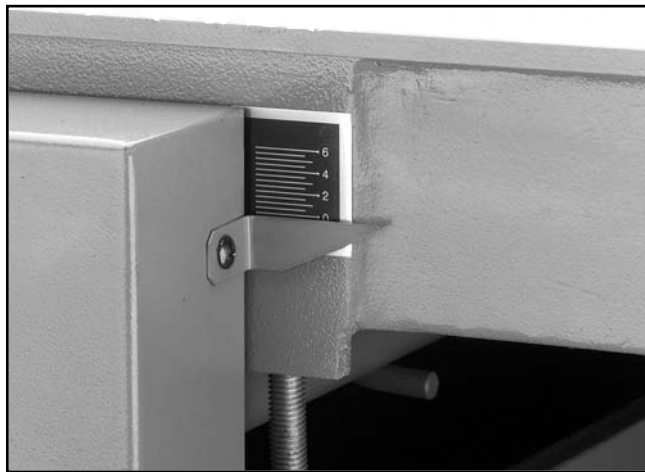

Figure 45. Depth-of-cut pointer adjusted to "0" position.
8. Loosen the depth-of-cut pointer screw and adjust the depth pointer to the "0" position as shown in **Figure 45**.